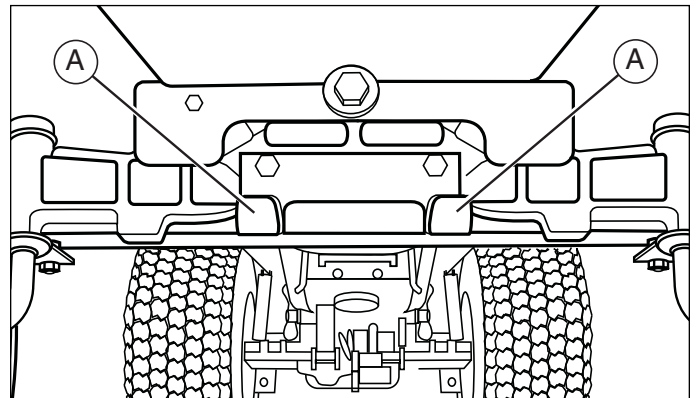

Figure 6. Mower Hitch
7. Turn wheels straight ahead. Lift mower hitch off of the tractor brackets (A, Figure 6).
4. Turn wheels straight ahead. Place lift mower hitch on the tractor hitch brackets (A, Figure 6).